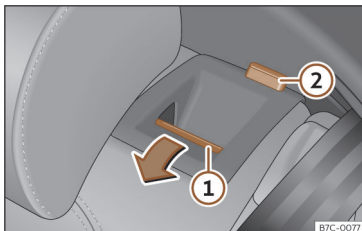

Fig. 114 Rear seat: folding the backrest.
- Press the unlock button >>> **Fig. 114 ①** forwards and at the same time fold the backrest down. The rear seat backrest is not engaged when the red marking of the button **②** is visible.
The rear seat backrest is not engaged when the red marking of the button»» **Fig. 114** ② is visible.